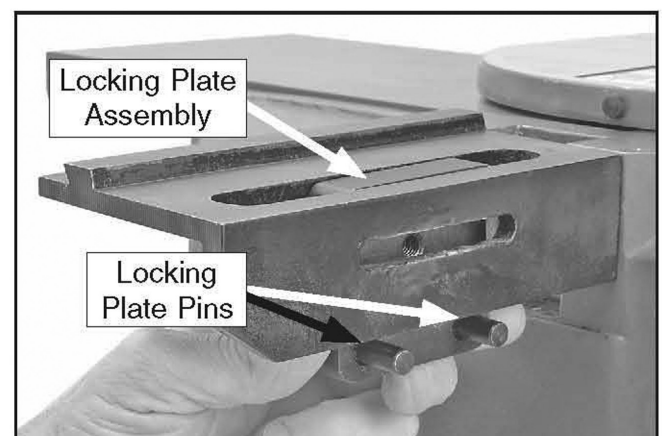

Figure 12. Inserting the locking plate.
2. Insert locking plate assembly into fence support, positioning it so both pins are against bottom edge of fence support (see **Figure 12**).